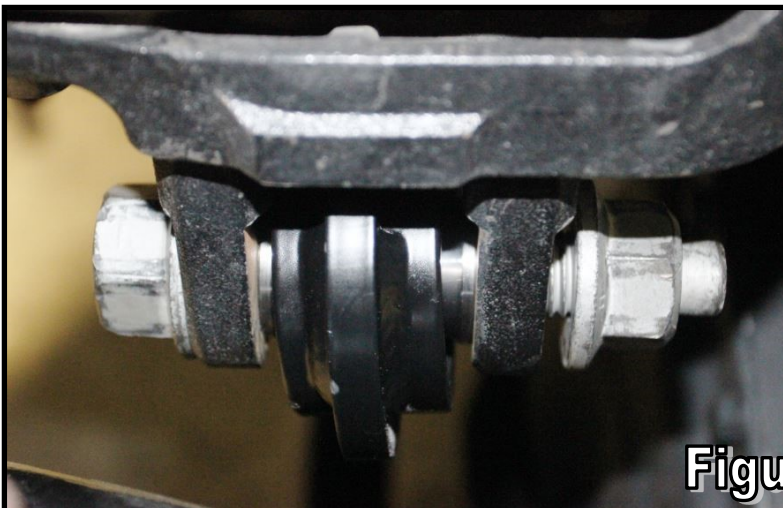

Figure 7
16. Assemble the Uniball Mis-alignment spacers to the frame end of the track bar. The thick spacer should be in the rear, the thin spacer in the front. This offsets the track bar to the front of the bracket. **[Figure 7]**